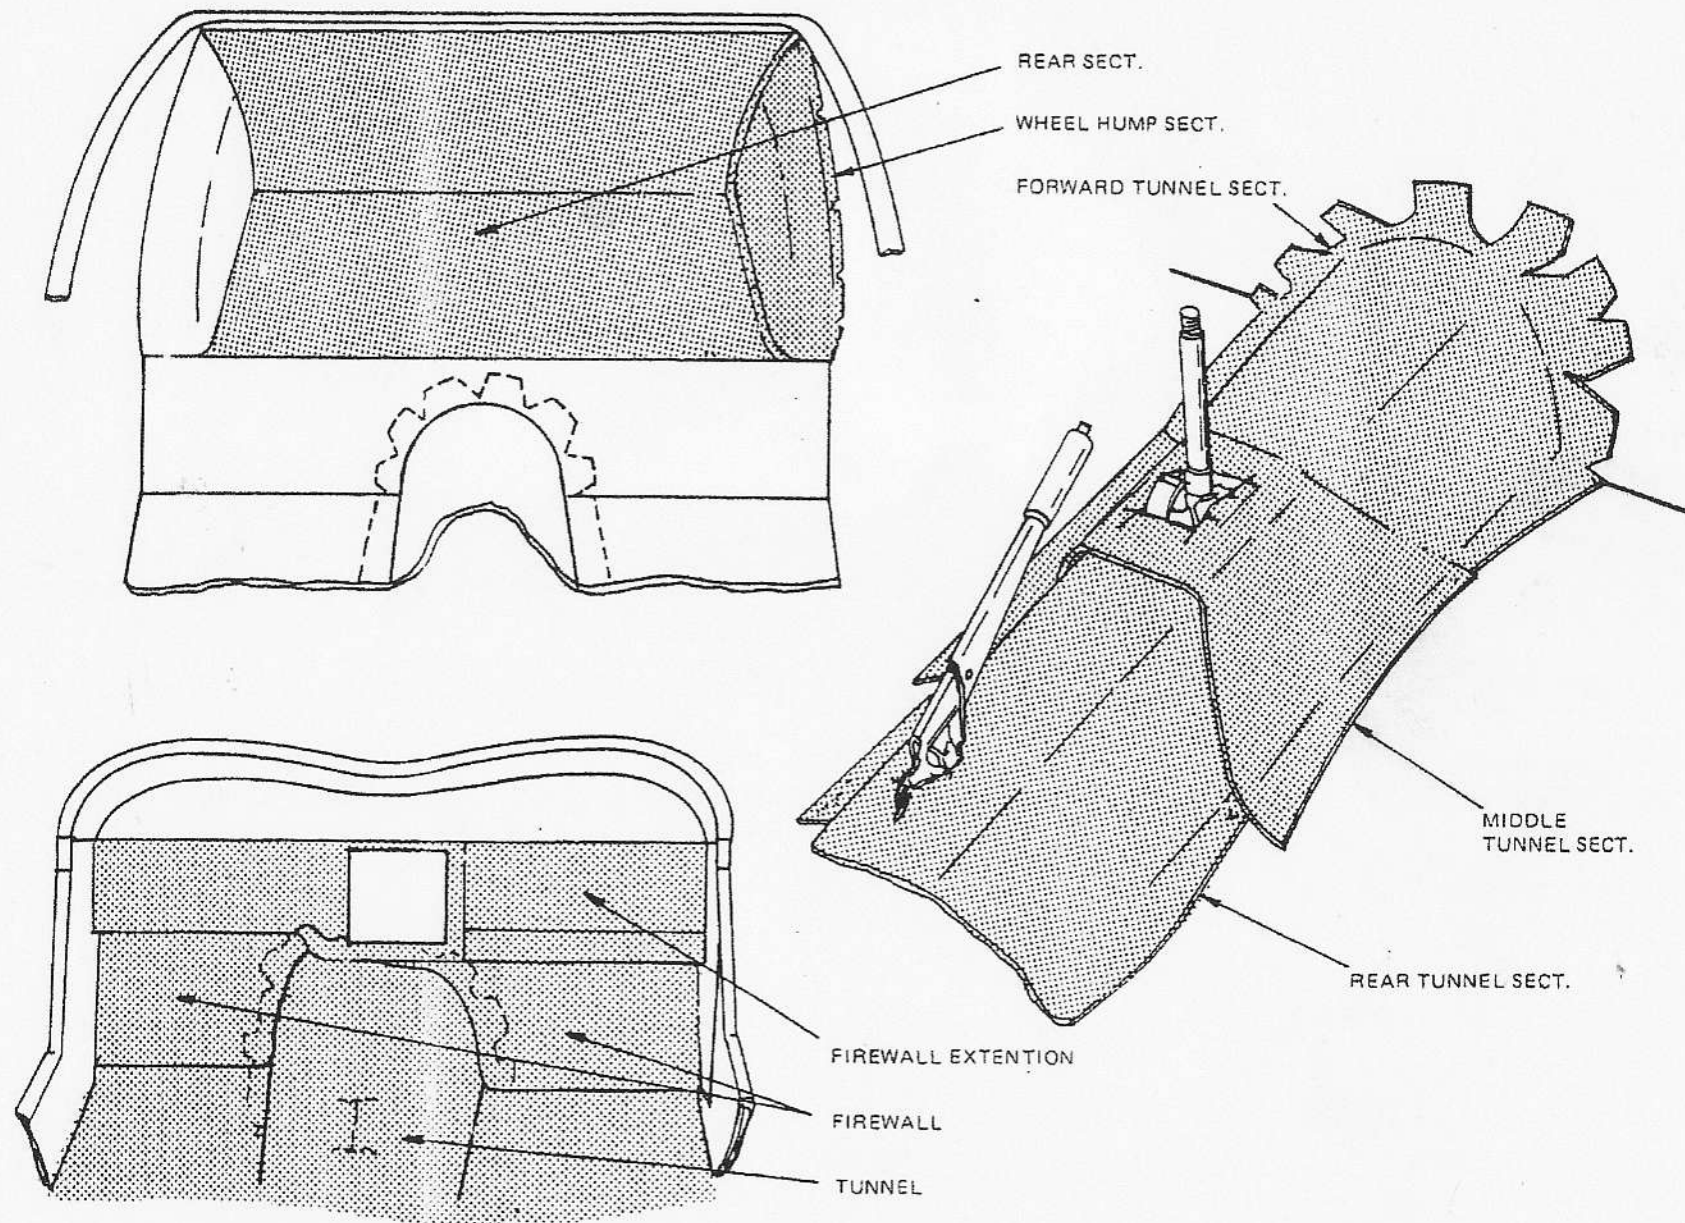

Figure 77
- ☐ The first pieces to be installed are the wheel hump sections. (Figure 77) Using spray glue or contact cement, glue the section in place, notching where necessary to allow it to lay flat.
- ☐ Fit the rear section in place. Align side edges with wheel humps and rear with top of body. (Figure 77) Glue in place, spreading glue on back and bottom of body. Do not glue corners or part of carpet that drops down toward floor. They will be glued in a later step.